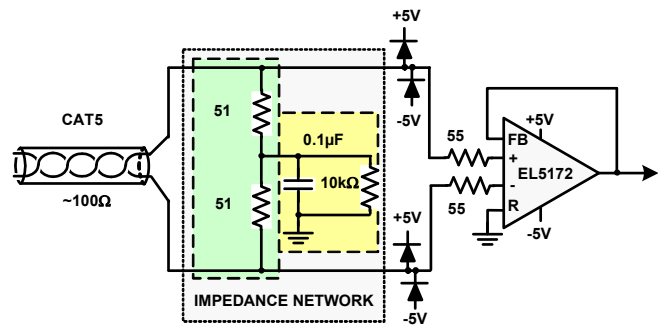

FIGURE 3. $\pm 3.5V$ CMV CIRCUIT
- 1. $\pm 3.5V$ CMV Circuit** - The first circuit, Figure 3, is a Cat 5 to Coax converter with $\pm 3.5V$ CMV, which relies on the amp's CMV range while converting differential input to single-ended output. We used the EL5172 for NTSC and PAL in a simple unity gain configuration. We can use the same circuit with a higher bandwidth op amp, the EL5375 or EL5378, for RGB video (only the EL5172 circuit is shown for reference). The 55 Ω resistor right at the input to the amplifier is to reduce possible feedback generated oscillation and should be placed as close to the inputs as possible. Note the ESD clamp diodes location for ESD protection.